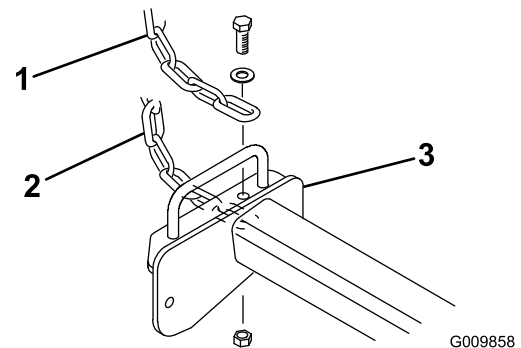

Figure 10
3. Secure a tipper chain to the top of each 27 inch cutting unit carrier frame and to the bottom of each 32 inch cutting unit carrier frame with a bolt, washer, and locknut (Figure 10).